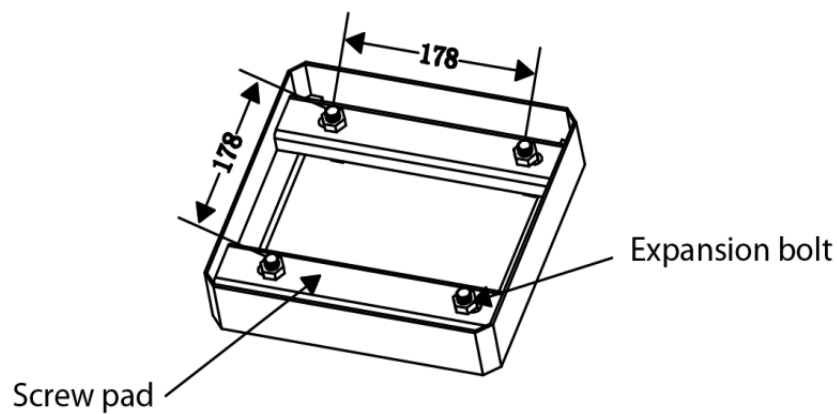

Figure 2-1
- Drive four expansion bolts into the bolt holes, as shown in Figure 2-1.